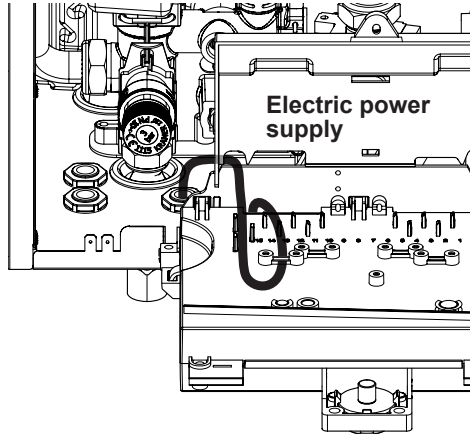

Fig. 6.17
- Connect the electric power supply cable coming from the fused spur isolation switch to the power supply terminal block of the boiler Fig. 6.17 keeping the same